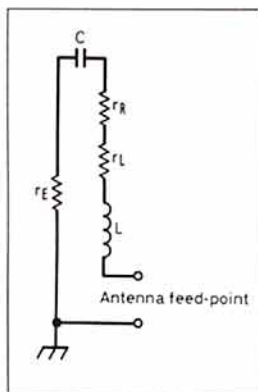

Fig 1: Simplified equivalent circuit of the antenna.
IN LES MOXON's comprehensive book, *HF Antennas for All Locations* [available from RSGB sales - see 'Bookcase' pages - Ed], the simplified equivalent antenna circuit is shown to be completed by current flowing to the car body via the antenna capacitance. This occurs either directly or via the 'car-body to earth' capacity, and thence back to the transmitter. In so doing it encounters resistance in the earth path which unfortunately dissipates some of the radiated power in the form of heat. In my own case, a figure of 20 Ω appears appropriate. A simplified equivalent circuit is shown in Fig 1, current flowing via the coil inductance (L), whip capacitance (C), radiation resistance (r_r), coil resistance (r_l) and earth resistance (r_e).